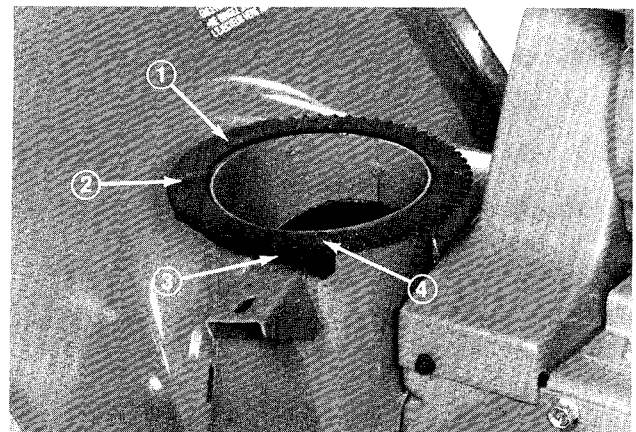

Figure 8
1. Rotate retaining ring so teeth are toward left side of unit (Fig. 8). Next, remove three self tapping screws from top of retaining ring, but do not remove the screw near "TOP" marking, which is on the retaining ring.
2. The two curved plastic retainers are slotted and are used to secure the discharge chute. Therefore, keep retainers in place (Fig. 8).
3. Move opposite end of retainer under the retaining ring so mounting holes line up and slot in retainer fits over the collar at top of discharge opening (Fig. 8).